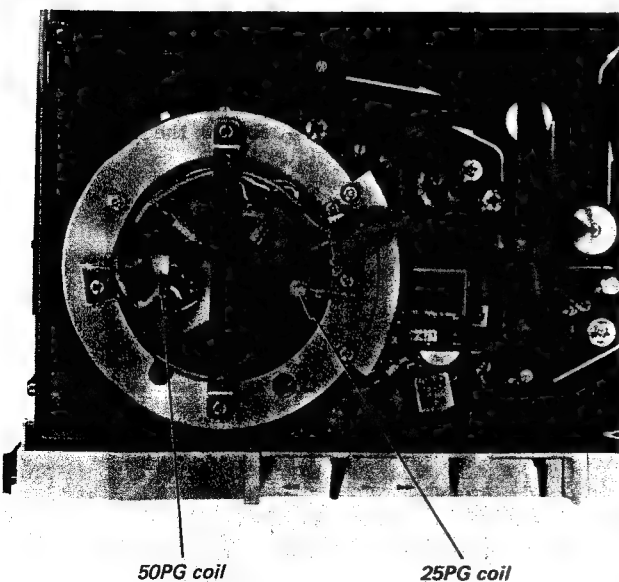
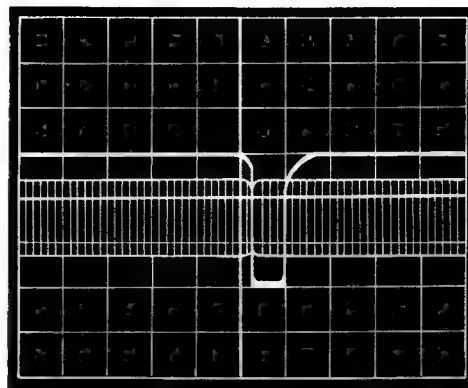

Fig. 4-2.
Fig. 4-3.
6. Bend the tip of the 50 PG coil with pliers and adjust the coil position so that maximum rf output is obtained in the overlap period. See Fig. 4-2 and Fig. 4-3.